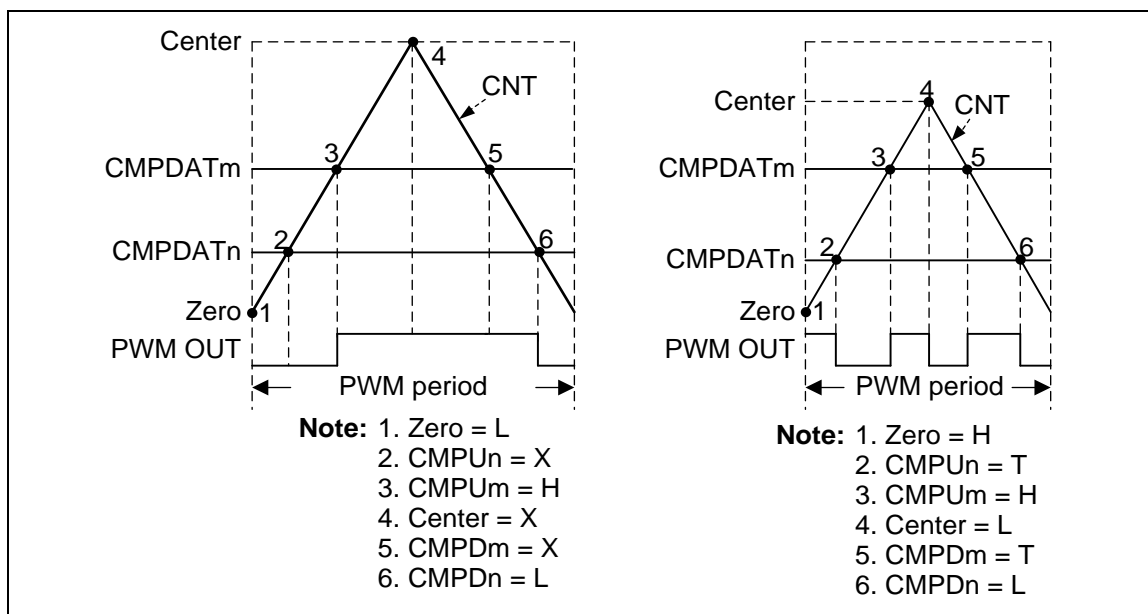

Figure 6.8-18 PWM Pulse Generation
Each event point can decide PWM waveform to do nothing (X), set Low (L), set High (H) or toggle (T) by setting the PWM_WGCTL0 and PWM_WGCTL1 registers. Using these points can easily generate asymmetric PWM pulse or variant waveform as shown in Figure 6.8-18. In the figure, PWM is in complementary mode, there are two comparators n and m to generate PWM pulse. n denotes even channel number 0, 2, or 4, and m denotes odd channel number 1, 3, or 5. n channel and m channel are complementary paired. Complementary mode uses two channels (CH0 and CH1, CH2 and CH3, or CH4 and CH5) as a pair of PWM outputs to generate complement paired waveforms. CMPU denotes CNT(PWM_CNTn[15:0]) is equal to CMP(PWM_CMPDATn[15:0]) when counting up. CMPD denotes CNT bits is equal to CMP bits when counting down.